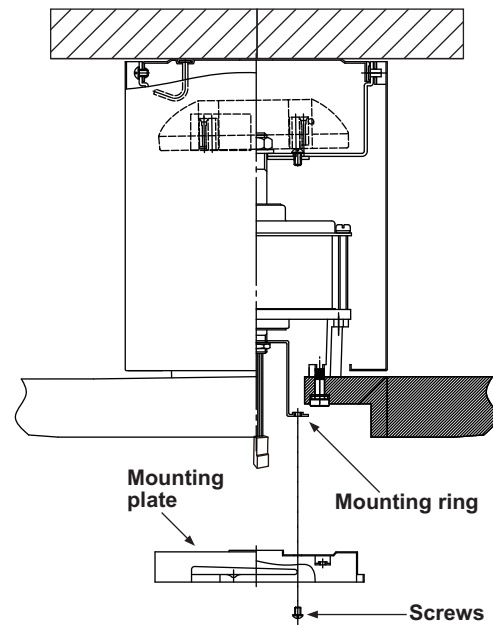

Figure 7
Step 2. Place the key holes on the mounting plate over the 2 screws previously loosened from the mounting ring, turn mounting plate until it locks in place at the narrow section of the key holes. Secure by tightening the 2 screws previously loosened and the one previously removed. (Fig. 7)